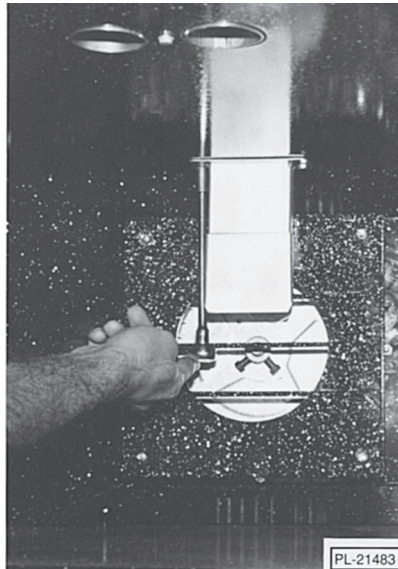

Fig. 53
4. Remove (2) #10 sheet metal screws securing snorkel tube to oven cavity (Fig. 53).